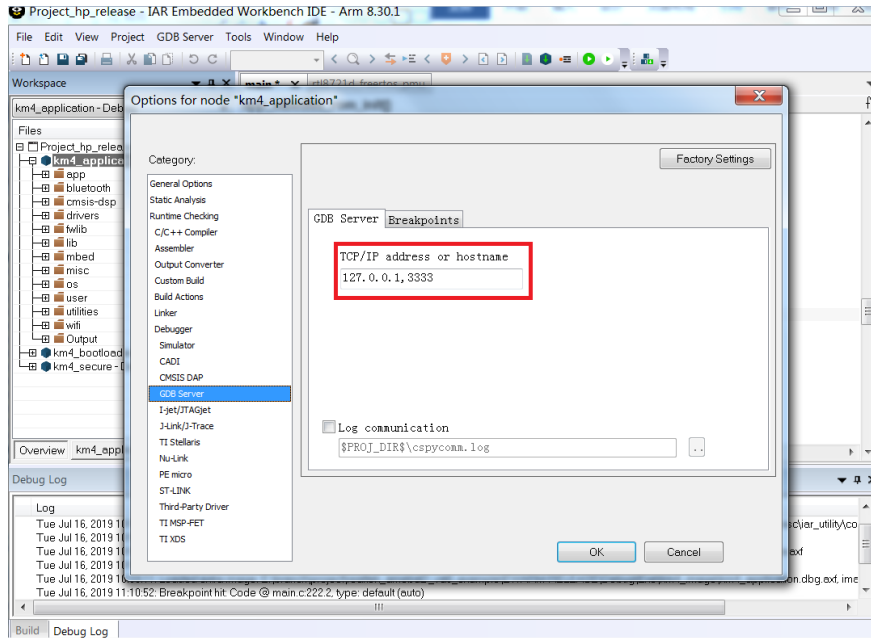

Fig 6-16 RLX Probe interface setup
- b) Click **GDB Server > GDB Server**, and put correct value in "TCP/IP address or hostname", as Fig 6-16 shows. The value should be: *localhost, port number*.